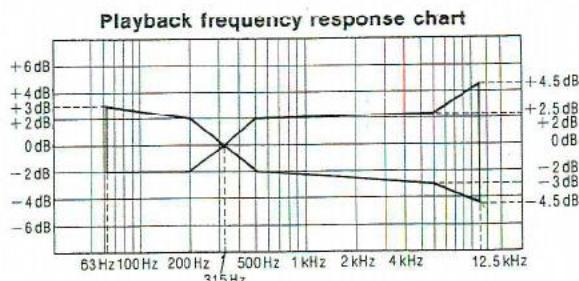

Fig. 6
- 2. Assure that the frequency response is within the range shown in Fig. 6 for both L-CH and R-CH.